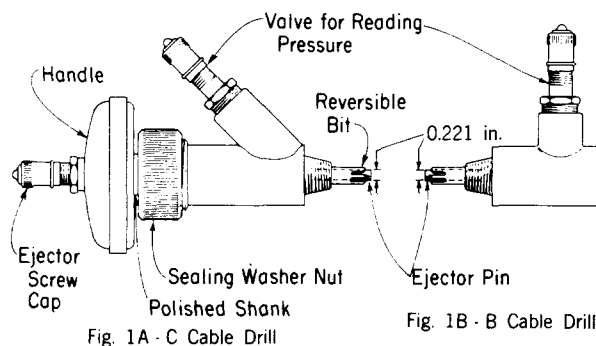

Fig. 1 — B and C Cable Drills
2.01 The B and C Cable Drills illustrated in Fig. 1 are used for making a 1/4-inch hole for a B or C Flange. Each of these drills serves as a cable drill and temporary valve. This provides a convenient method of making valve connections to a lead sleeve or lead cable sheath without loss of gas, and eliminates waiting for equalization of pressure when it is necessary to make accurate pressure measurements at points between existing valves.